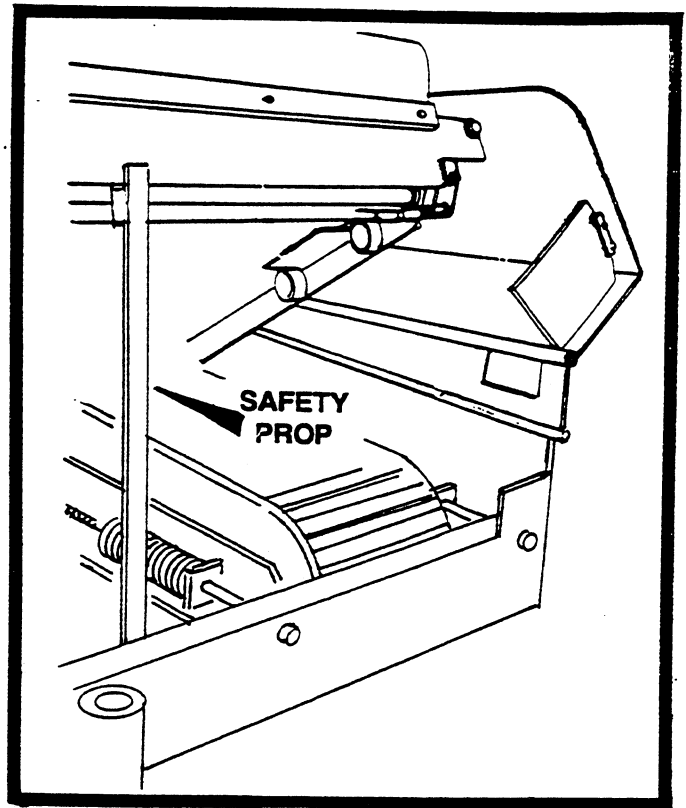

FIGURE 32
3. IMMEDIATELY AFTER RAISING FEEDERS, PLACE THE SAFETY PROP IN POSITION. See figure 32.